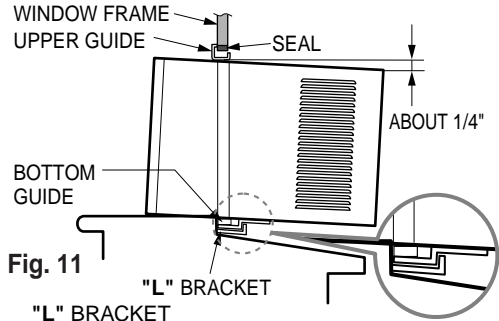

Fig. 11
b. While steadying the air conditioner, carefully bring the window sash down behind the upper guide of the air conditioner, as shown in Fig. 11.